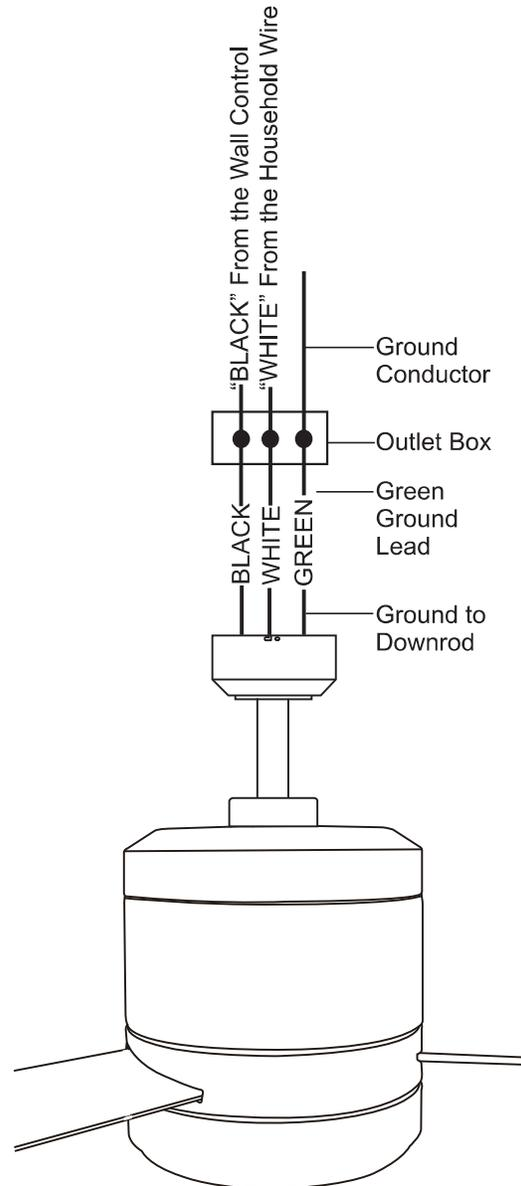

Fig.13
Step 3 Connect the green wire from the fan to the green wire from the household ground wire.(Fig.13 )